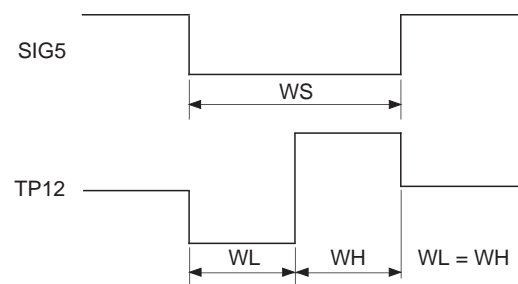

Fig. 1-2. Horizontal AFC adjustment
Input SIG5 (VL = 0mV) to (A) and adjust V14 so that WL and WH of the TP12 output waveform are the same. (See Fig. 1-2.)